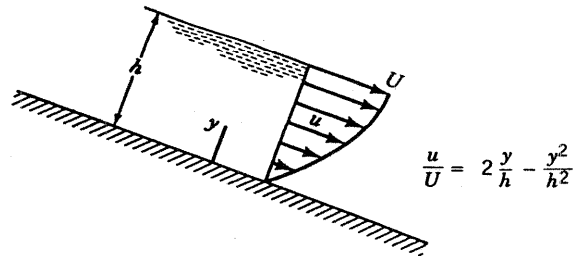

FIGURE P1.59
**1.59** A layer of water flows down an inclined fixed surface with the velocity profile shown in Fig. P1.59. Determine the magnitude and direction of the shearing stress that the water exerts on the fixed surface for  $U = 2$  m/s and  $h = 0.1$  m.